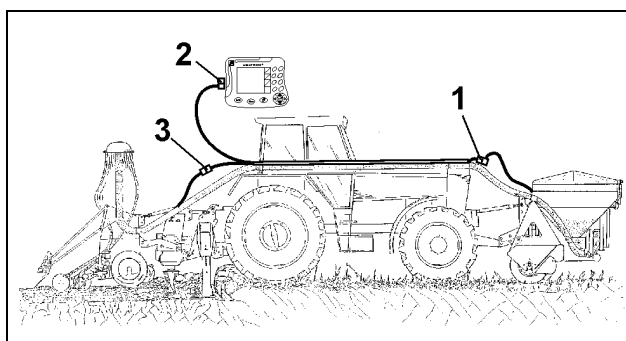
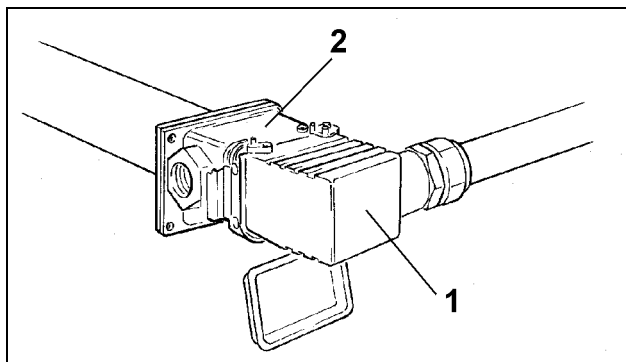
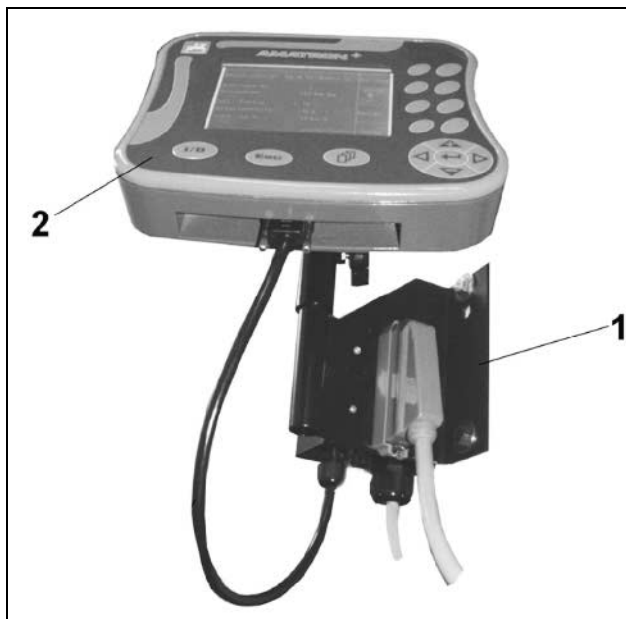

Fig. 33
Fig. 34
Fig. 35
Install and affix to the tractor both the seed guide tubes and the set of cables (Fig. 33).
- Connect combi-plug (Fig. 33/1, Fig. 34) of the front tank with the cable harness
- Connect the plug of the seed drill with the cable harness (Fig. 33/3).
- Connect the cable harness with the aid of the implement plug with the tractor basic equipment for AMATRON+ (Fig. 33/3, Fig. 35).
Connect the combi-plug (Fig. 34/1) on the seed hopper with the set of cables (Fig. 34/2) on the tractor.